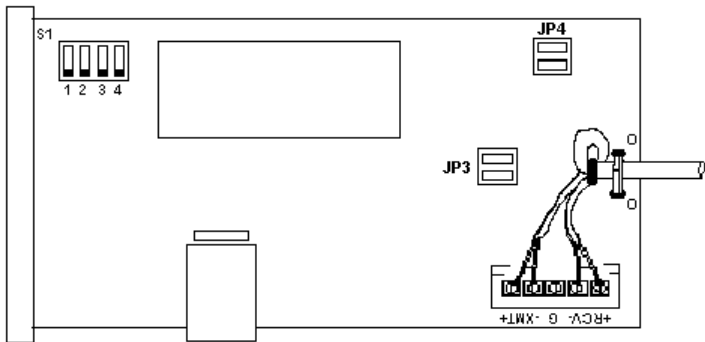

Figure 4. Model 2086M/2086F, Terminal Block & Cable Routing
4. Place the cable through the end plate, and make a small loop in the cable and feed the cable under the tie wrap which is currently installed in the board. When you have completed this assembly it should resemble figure 4. Connect *one pair* of wires to XMT+ and XMT- (transmit positive and negative) on the terminal block, making careful note of which color is positive, and which color is negative.